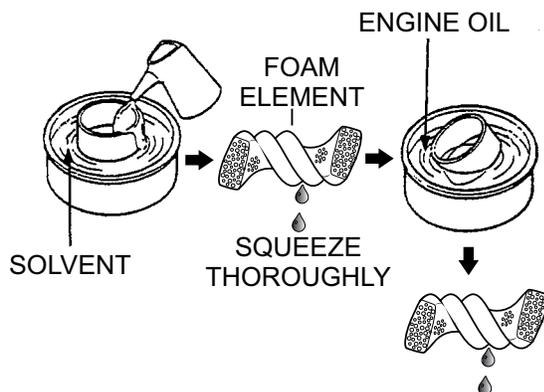

Figure 24. Cleaning Foam Element
2. Clean foam element (Figure 24) in warm, soapy water or non-flammable solvent. Rinse and dry thoroughly.